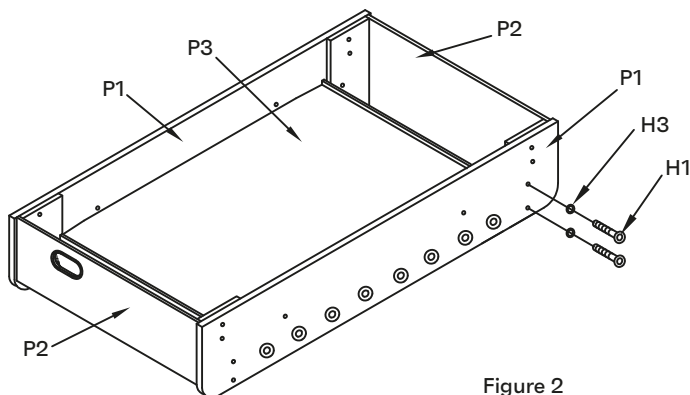

Figure 2
2. Attach the two end panels P2 to the side panels P1 as shown in figure 2. Remember the groove must face inward toward the playfield. Attach the end panels with bolts H1 and washers H3 into the pre-installed dowel connectors. Tighten all hardware at this time.